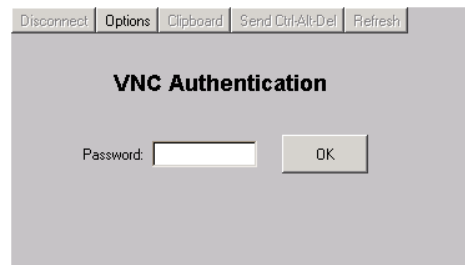

Figure D-22 VNC Authentication Screen
- c. After the backup server reboots, click *Login again*. The *VNC Authentication* screen displays (Figure D-22).
- c. After the backup server reboots, click *Login again*. The *VNC Authentication* screen displays (Figure D-22 on page D-16).